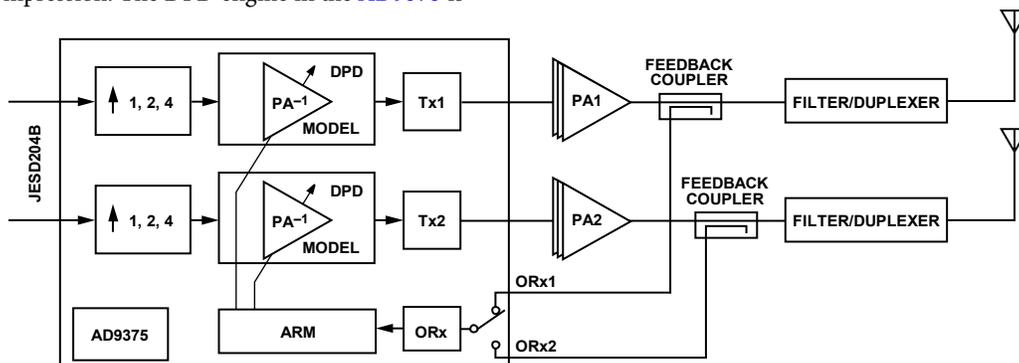

Figure 229. Representation of the Integrated DPD Implementation in AD9375
The DPD algorithm runs on the ARM processor of the AD9375 and calculates the coefficients and terms of the inverse PA model. This model predistorts the digital baseband signal before digital-to-analog conversion and transmission of samples to the Tx upconverter (this output becomes the radio frequency (RF) input to the PA). This computation is performed along with other transceiver operations as specified by the priorities of the ARM scheduler. The PA output is sampled using an external loopback to an observation receiver (ORx) port on the AD9375. A simplified representation of the implementation of DPD in AD9375 is shown in Figure 229.
Figure 229 illustrates that the Tx1 and Tx2 digital datastreams are first upsampled by a factor of 1, 2, or 4 depending on the active Tx profile. The digital datastreams are sent via JESD204B interfaces. Upsampling allows the baseband processor (BBP) to transmit a lower rate on the JESD204B link than is needed for the full digital predistortion (DPD) bandwidth, saving valuable JESD204B resources, which directly translates to power savings and lower data rates in the digital front end (DFE). This upsampling is done to achieve a wide enough bandwidth expansion for the DPD algorithm to obtain optimal results. DPD algorithms in general require a bandwidth 3× to 5× larger than the signal bandwidth to correct for power amplifier (PA) nonlinearities that cause higher adjacent channel leakage ratio (ACLR) levels. The ORx input is sparsely time sampled and fed to the ARM for DPD processing. The DPD engine then correlates the ORx and transceiver (Tx) samples to calculate the latest coefficients. The DPD engine performs a brief check on model error before updating the lookup tables (LUTs) that feed the correction coefficients into the DPD actuator hardware. Due to the relatively simple implementation of this algorithm, the overall time taken to react to sudden changes in Tx waveforms is relatively short and is typically less than 1 second (actual time depends on the configurable parameters of the DPD and ARM scheduling). Certain protection criteria are designed into the algorithm to prevent damage to the PA due to large model errors.